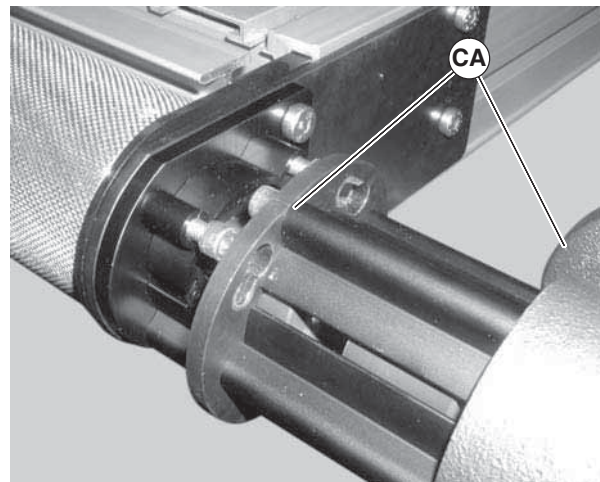

Figure 64
- d. Remove the four (4) lock screws (Figure 64, item BZ) and the short side drive guard (CB).